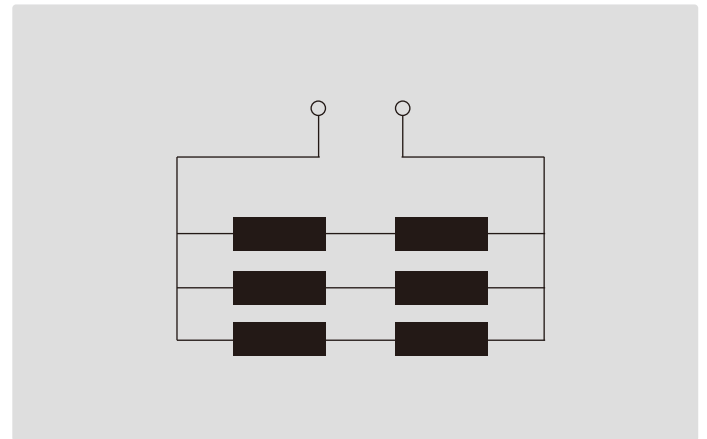

Fig.2 Single-phase 2 units, series connection and parallel connection
2. Single-phase 2 units series and parallel connections (Fig.2)